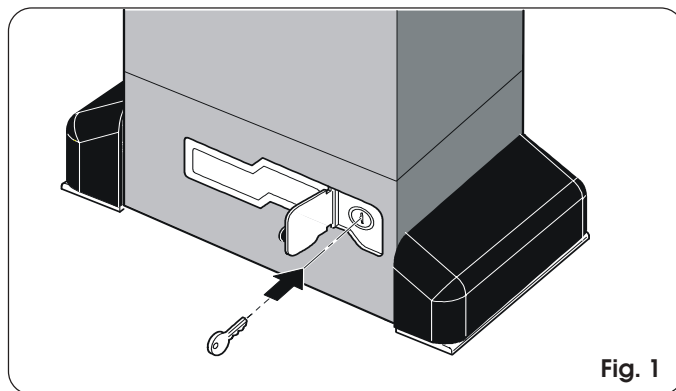

Fig. 1
- 1) Open the protection door and fit the supplied key in the lock as shown in Fig. 1.